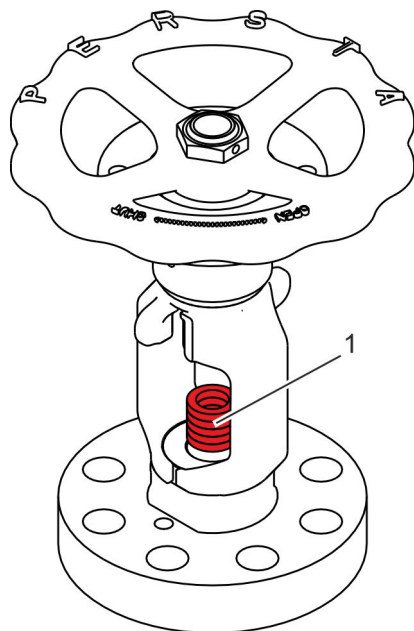

Fig. 26: Removing stuffing box elements
- 14.** ➤ Use a packing extractor to remove the stuffing box elements (Fig. 26/1).